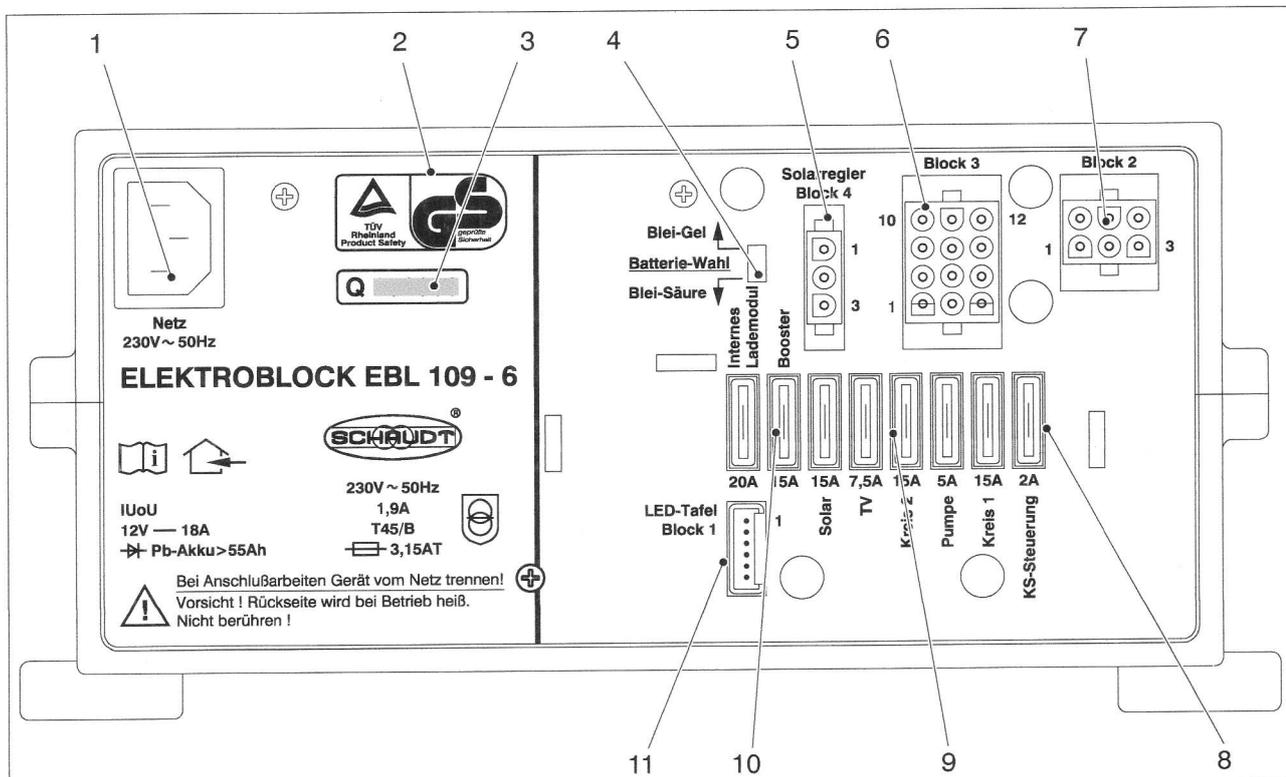

Fig. 2 Electrobloc EBL 109-6 front view
- You must ensure that the battery selector switch (Fig. 2, Pos. 4) is set to the correct position for the type of battery being used.
- Move the battery selector switch (Fig. 2, Pos. 4) into the relevant position using a thin object (e. g. ball-point pen):